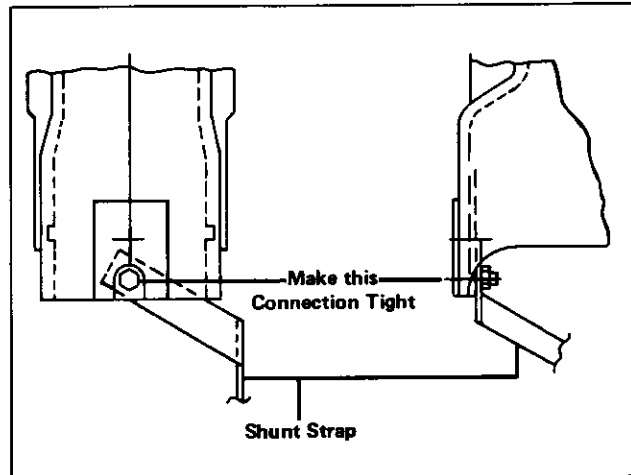

Fig. 41 Connect Shunt Strap
**CONNECT SHUNT STRAP (FIG. 41)**
**BARRIER (FIG. 41)**